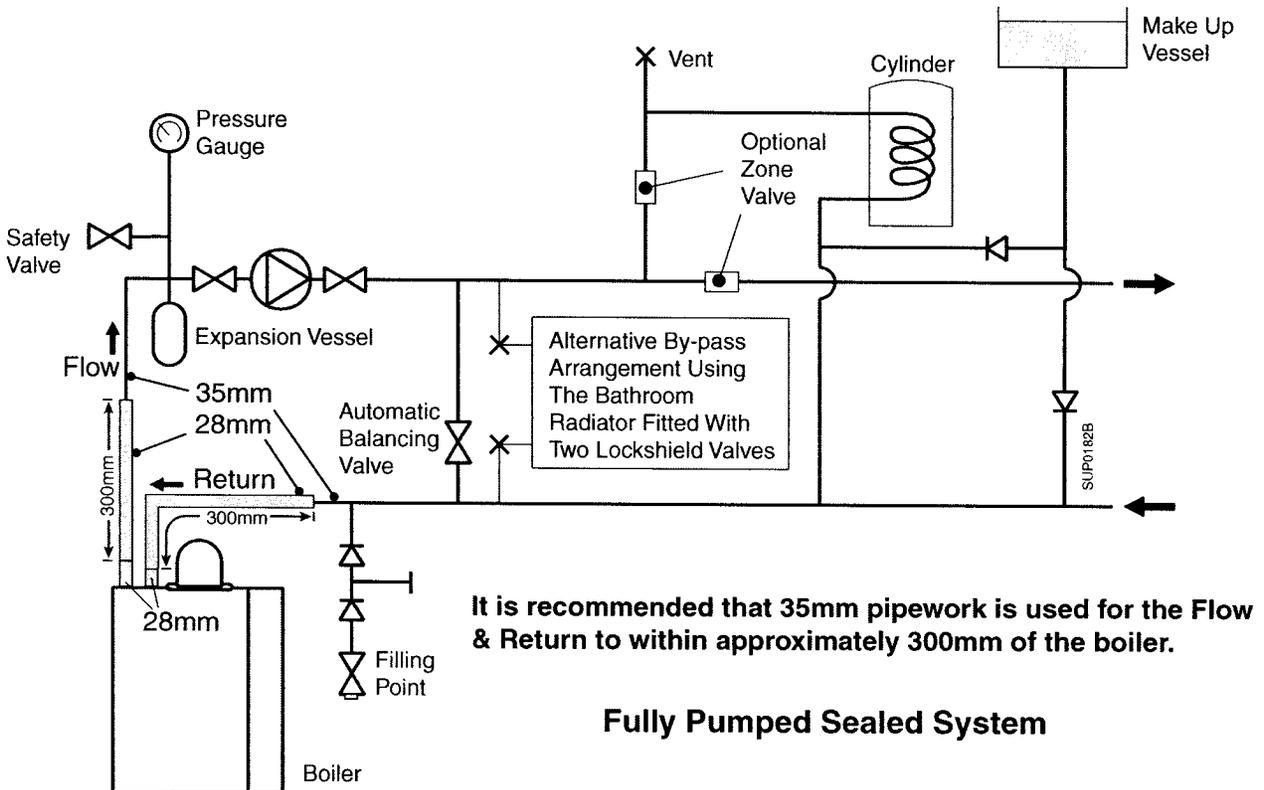

Fig. 6
For position of pump see Fig. 6. On all systems the pump live connection should be wired to the boiler terminal block, it will then be controlled by the pump over-run. This will ensure that the pump will continue to run after boiler shut down if the water temperature is high, thus preventing nuisance operation of the overheat thermostat.
- i) from a make-up vessel or tank mounted in a position higher than the top point of the system, and connected through a non-return valve to the system on the return side of the hot water cylinder or the return side of all heat emitters, see Fig. 6.